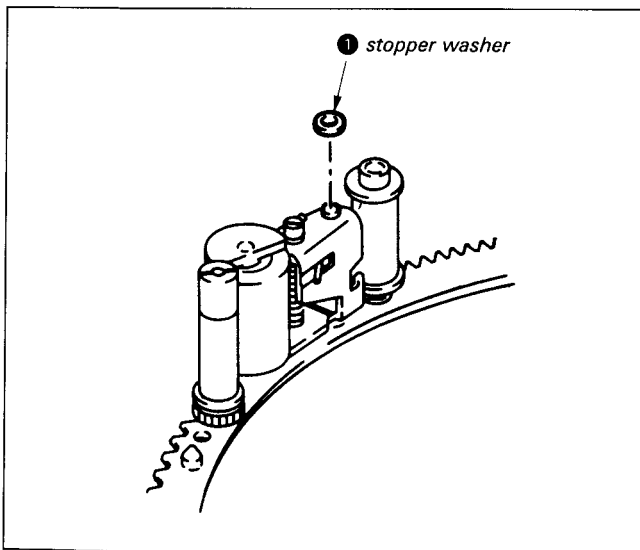

Fig. 7-14.
7-3-8. Pinch Roller Assembly (See Fig. 7-14. ~ 25.)
- 2) Remove stopper washer ❶. (See Fig. 7-14.)